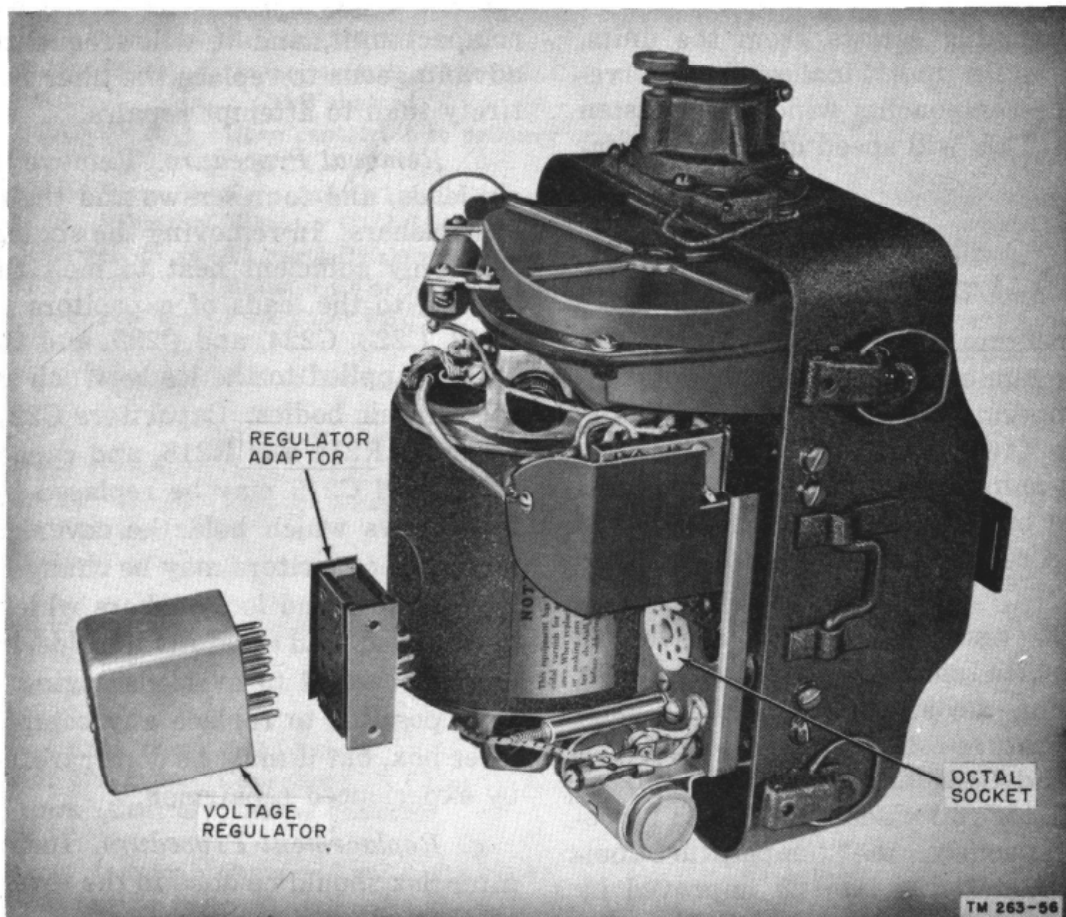

Figure 148. Replacement of early model voltage regulator with later model, in Generator GN-58-A (early models), by means of adapter.
a. The only pluck-out part in the hand generator is the voltage regulator unit. The top half of the generator housing is fastened to the bottom by clamps. On some models, the clamps are fastened to the bottom half of the housing by screws. These screws must be completely removed before the clamps can be released. Once the top half is lifted off the bottom half of the housing, the voltage regulator unit is clearly seen. Figure 148 shows an old model of Generator GN-58-A. This type of regulator has an octal socket and has been superseded with a new type of regulator. The new regulator is used on the latest models of Generator GN-58-A and, by means of an adapter plug, may be inserted into the old models. Within the adapter are resistance units to accommodate the new regulator to the old model generator. The bottom of the adapter has an octal base; the top